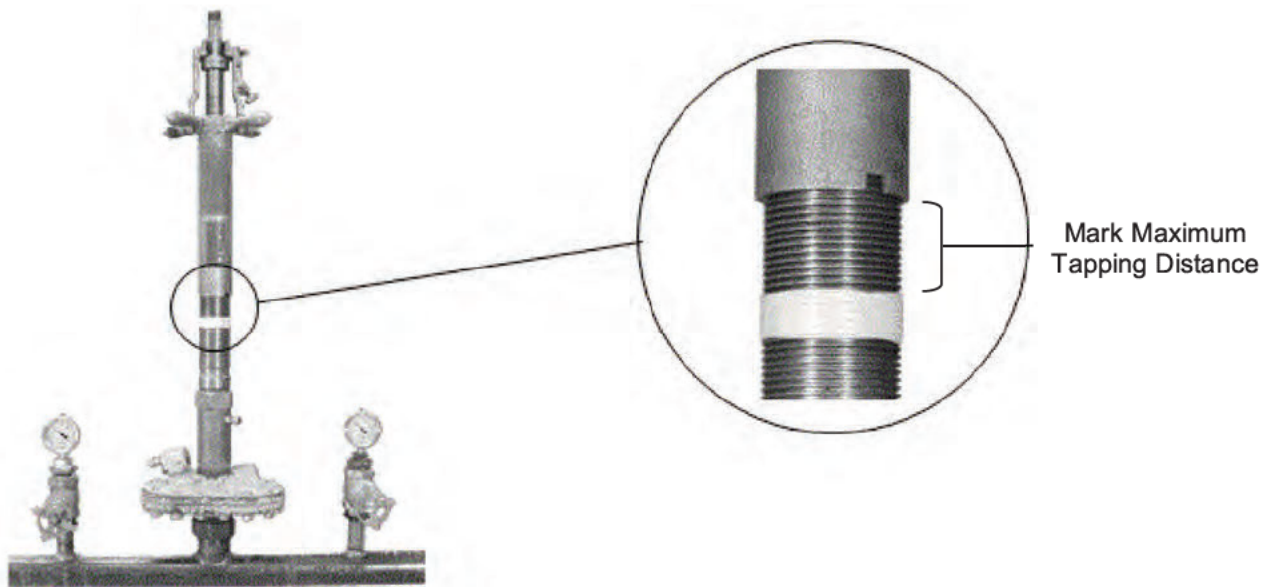

Figure 7. Marking Maximum Tapping Distance
- 3.15 Measure AND mark maximum tapping distance on body of drilling machine from bottom of feed tube. (See Table 8 for maximum tapping distance and Figure 7 for an illustration.)